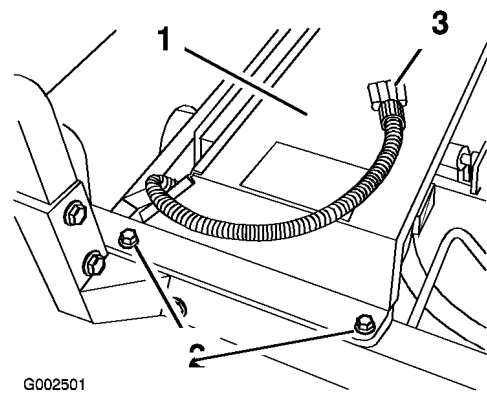

Figure 16
- Install the radiator cover assembly over the vehicle's radiator (Figure 16).